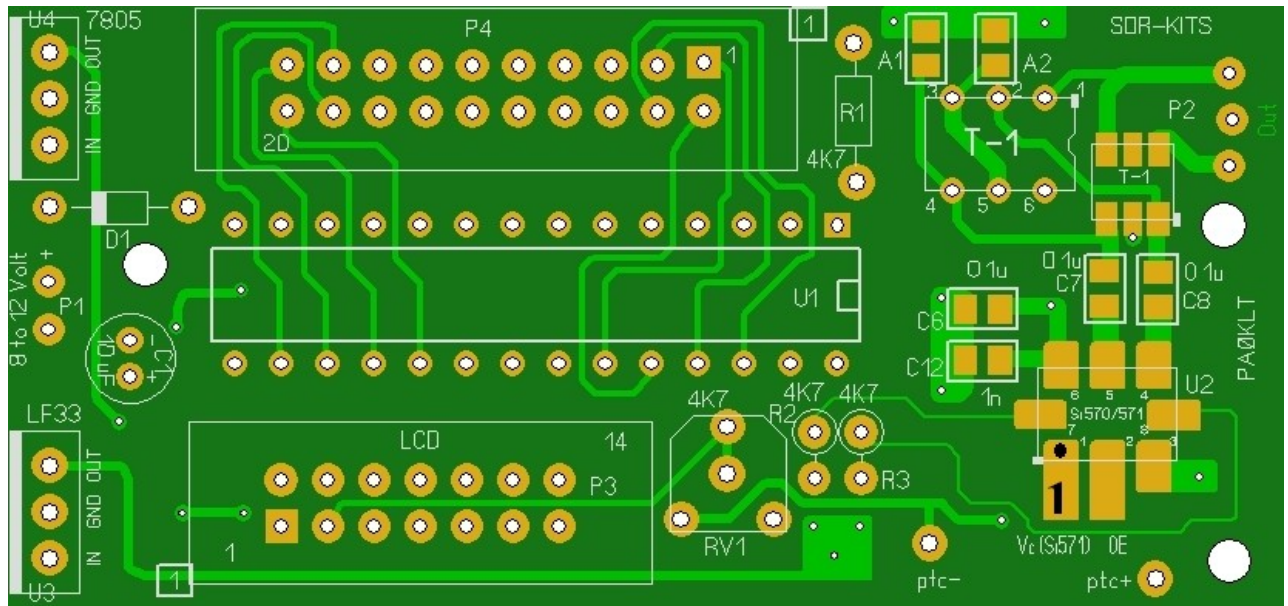

fig 2: Top Component placement view PA0KLT PCB - Note location Pin 1 of P3 and P4
- () Start by fitting the 1uF Ceramic 0805 capacitors C2, C3, C4 and C5 (blue stripe) as shown in fig 2. (there is no polarity indication as capacitors are bipolar)
- () **LCD Connector J1:** In this step the wiring to the LCD display. Before cutting to length you will wish to consider how long the cable needs to be to fit in the enclosure you are going to use. Cut a length of 16 way ribbon cable required to connect between PCB and LCD module. Peel off two of the cores at the opposite end to the red cores to reduce the cable to 14 wires. Fit the cable at right angle into the IDC connector **so the red coloured wire connects to P3 Pin 1** (See fig 2). Clamp into a small vice. Turn the vice until the ribbon cable is solidly pressed into the connector.
the red coloured wire should connect to pin 1 of P4, **Note:** the correct orientation of the pins for J2 is shown in Fig 2. Pin 17-Pin 20 are reserved for future use.
The wire from Pin 7 (Rotary control A) is soldered to the Right lug and the wire from Pin 8 (Rotary Control "B") to the middle lug. See Appendix 1. fig 2.
- () Refer to fig 2. and coat PCB pads marked 1 and 4 for the Si570 with a small amount of solder. Locate Si570 pin 1 indicated by a dot on the case and align with pad 1 shown in fig 2 below. Place Si570 over the pads and solder pin 1 to the pads secure the chip to the PCB. Check alignment. Next solder all remaining pads to the PCB. Make sure there is a small bow of solder connecting the side pad of the Si570 to the PCB pad. Check all connections, especially if pad 7 and 8 are properly soldered to the PCB pads. (Common reason why AVR does not talk with the Si570 chip). **Note:** recently supplied Si570 chips have two tiny pads on each side of pad 7 and pad 8. These are for Factory use only and should **NOT** be connected.